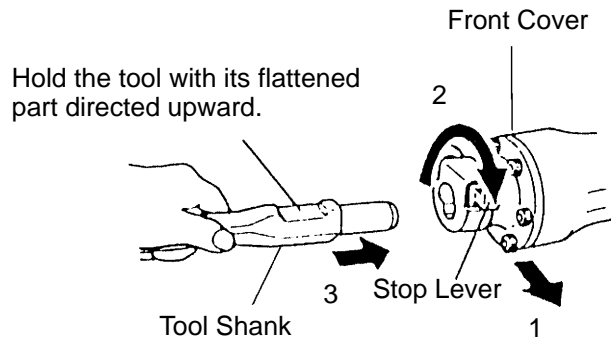
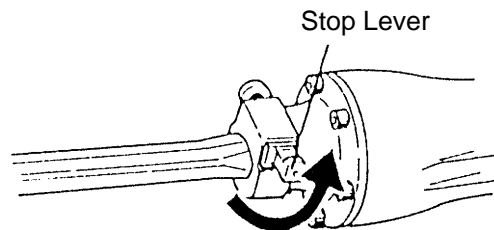

Fig. 4
Fig. 5
### 8-2. Stop Lever [Tool Retainer] (Fig. 4 and Fig. 5)
- (1) Clean, then smear the tool shank with grease or machine oil. (Fig. 4)
- (2) Rotate the stop lever 180° in a clockwise direction while pulling it toward you. Next, insert the tool shank into the hexagonal hole on the front cover. (Fig. 4)
- (3) Clamp the tool by turning the stop lever by half a turn in the opposite direction. (Fig. 5)